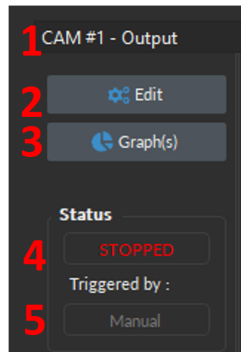
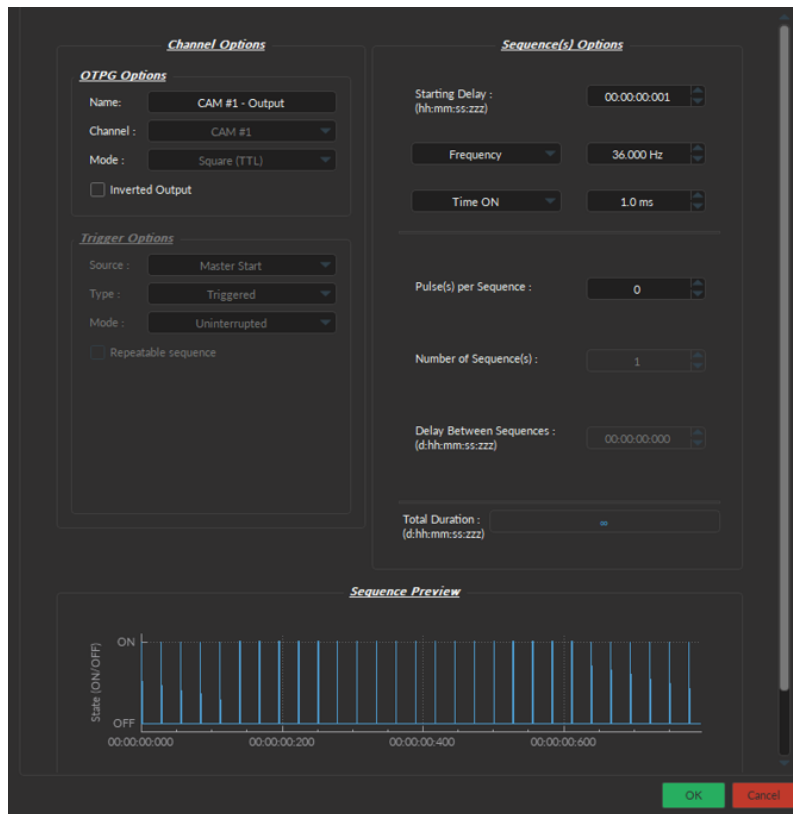

Figure 10.27: Digital I/O View, Control box
Figure 10.28: Edit configuration
The following elements are contained within the **Control Box** of every Digital channel (Fig. 10.27):
1. The **Channel name** (Fig. 10.27, 1) is located on the upper left of the **Control box**, identifying the type of channel and its number, corresponding to that on the *OTPG*.
2. The **Edit** button (Fig. 10.27, 2) opens the **Channel Configuration** window, where parameters can be modified (Fig. 10.28). For details on individual parameters, see Section 10.2.3.
3. The **Graph(s)** (Fig. 10.27, 3) button opens the **Graph Options** window (Fig. 14.36) corresponding to the channel whose graph will be modified. This window allows users to configure the visualization and naming parameters of
4. The **Status** bar (Fig. 10.27, 4) displays acquisition status. **STOPPED** is displayed when the acquisition is inactive, **STARTED** when acquisition is active, and **WAITING...** when the **Master Trigger** is set to *Triggered* (see Section 10.1.2.1, no. 3).
5. The **Triggered by:** (Fig. 10.27, 5) text-box displays the source of the trigger for that channel, which can either be Manual (i.e. selecting the **Record/Live** button) or a specific channel that provides external trigger signal.